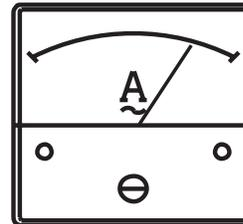

Figure 34. Ammeter (Load)
11. Observe the generator's ammeter (Figure 34) and verify it reads the anticipated amount of current with respect to the load. The ammeter will only display a current reading if a load is in use.